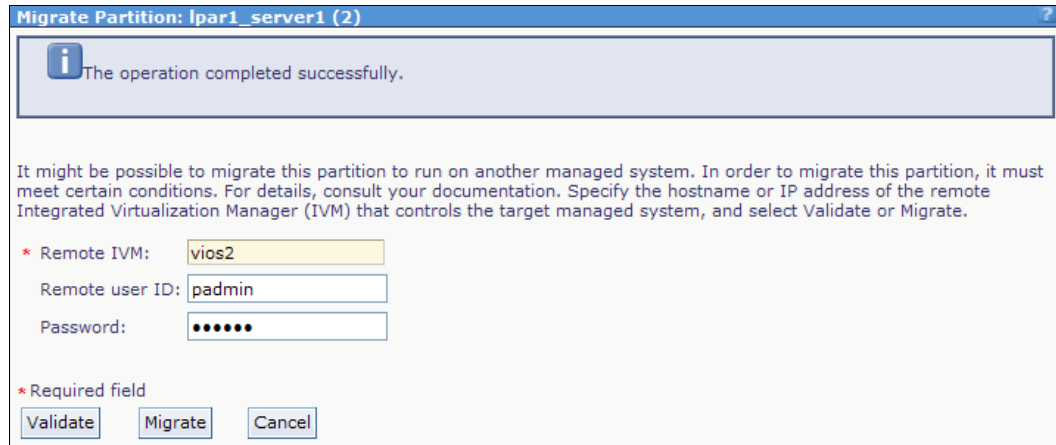

Figure 4-80 Migrate Partition window after validation
- After the physical adapter was unassigned for that partition, the operation was successfully completed, as shown in Figure 4-80. Now select **Migrate**.